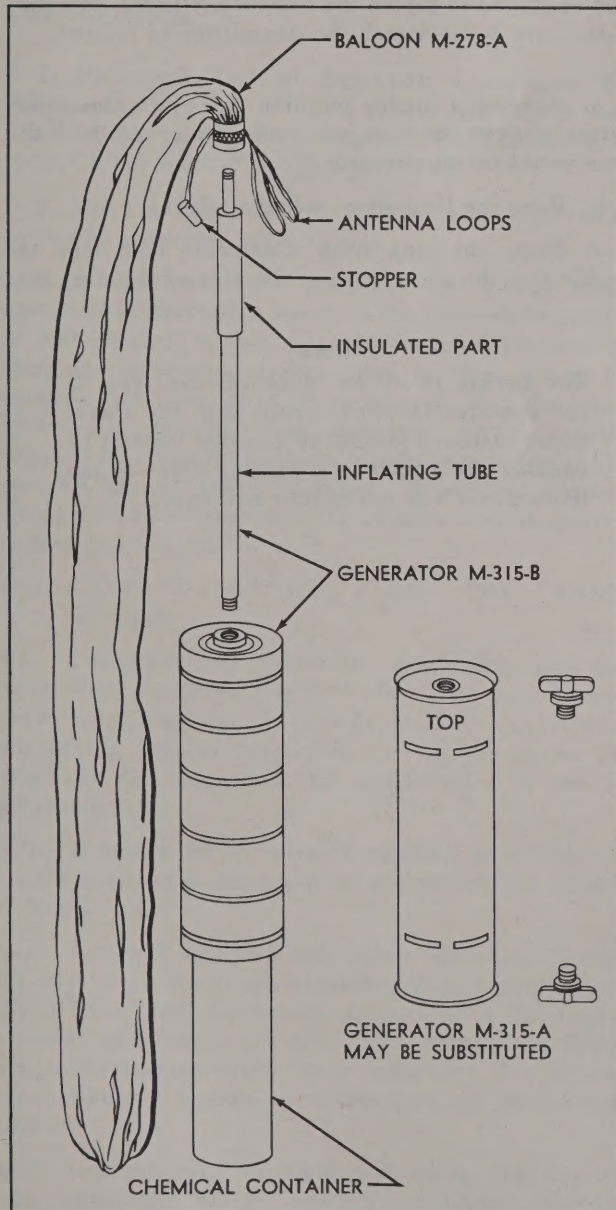

Figure 2-7. Balloon M-278-A - Inflation Setup
g. Allow the inner can to drop down from the bottom of the generator. (See figure 2-7.) Then pull the can out a little farther until it locks into position. Twist it slightly if necessary.
h. Screw the inflating tube into the top of the generator. (See figure 2-7.)